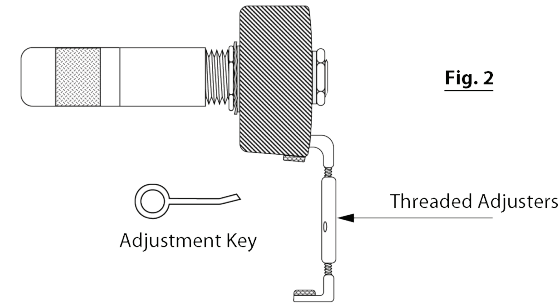

Fig. 2
4.1 Non-permanent external clamp/jack installation: Open the jaws of the clamp until it fits comfortably over the side of the instrument by turning the threaded adjusters counter clockwise (See fig. 2). Set the jack/clamp in place with the protective cork pads completely covering the